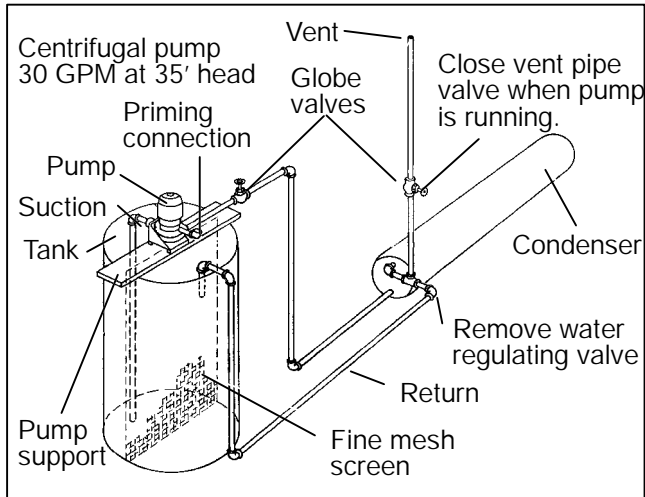

Figure 6-10 Water-Cooled Condenser Cleaning - Forced Circulation
5. Fill the tubes with this solution by filling from the bottom. See Figure 6-10. Important: be sure to provide a vent at the top for escaping gas.